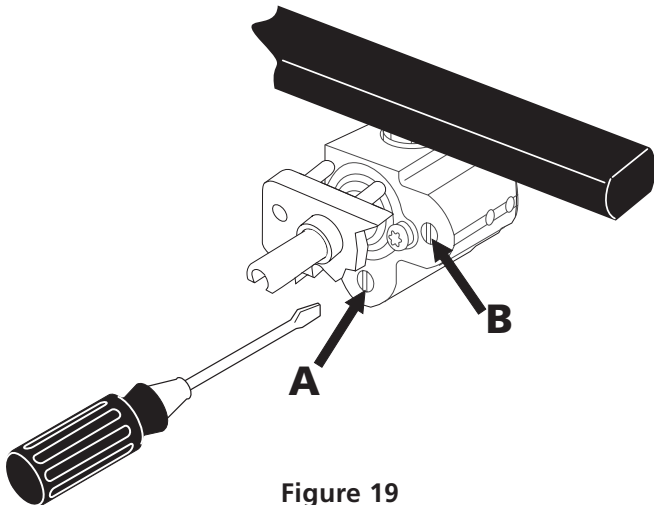

Figure 19
### 5. Adjust the "LOW" Setting of the Dual (Bridge) Surface Burner Valve (Figure 19):
- The rear portion of the bridge burner flame size can be increased or decreased by turning screw **A** (see Figure 19). Use screw **B** to adjust the flame size of the center portion of the bridge burner. Turn counterclockwise the screw to increase flame size. Turn clockwise the screw to decrease flame size. Adjust flame until you can quickly turn knob from LITE to LOWEST POSITION without extinguishing the flame. Flame should be as small as possible without going out.